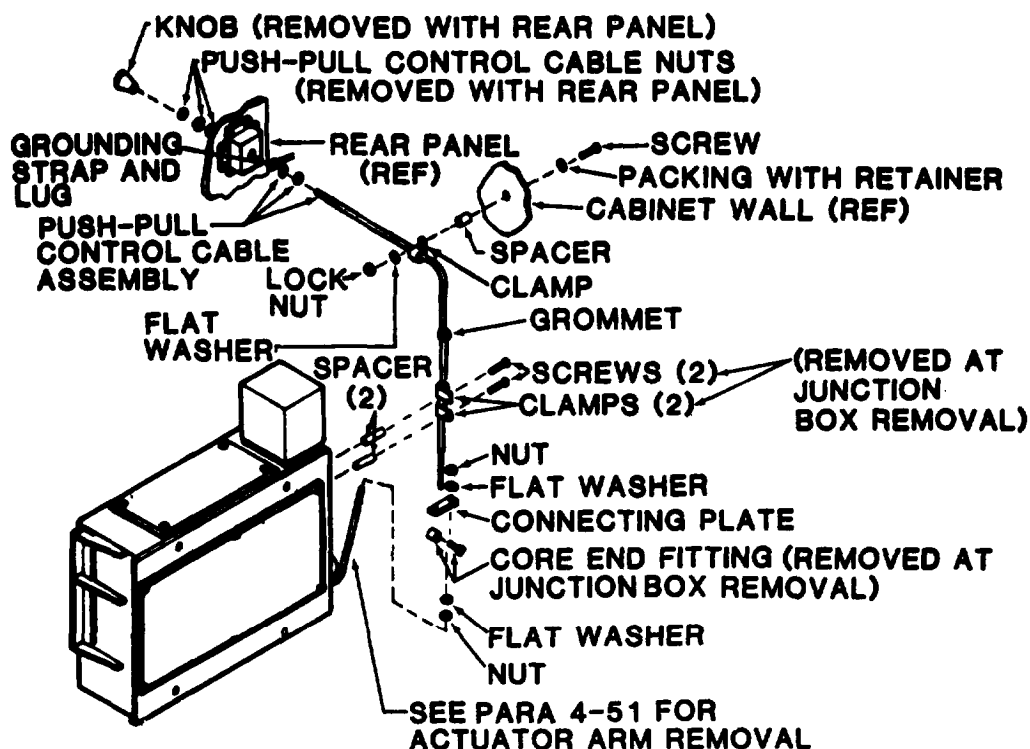

Figure 4-61. Circuit Breaker External Reset
- (1) Check that pads are in place and that wire moves freely in cable.
- (2) Using figure 4-61 as a guide, remove and replace any damaged or missing parts.